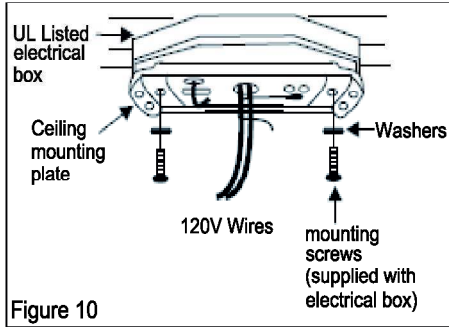

Figure 10
1. Pass the 120-volt supply wires through the center hole in the ceiling mounting plate as shown in Fig.10.
2. Install the ceiling mounting plate on the electrical box by using the mounting screws provided with the electrical box. When using the close-to-ceiling mounting, it is important that the mounting plate be level. If necessary use leveling washers (not supplied) between the mounting plate and electrical box. Note that the flat side of the mounting plate is toward the electrical box. (Fig.10)